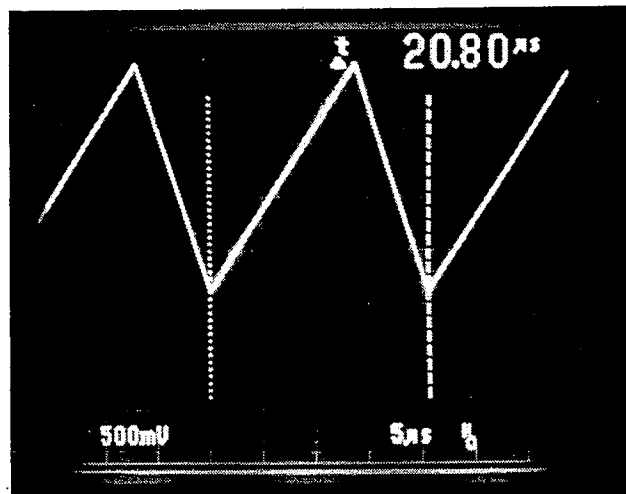

Figure 3.3. 20.8 μ s Sync Signal Free Running Across C9 on Power Supply.
3. Turn R11 CCW and set for approximately 5 μ s fall time on scope. Sawtooth waveform should approach 70% duty cycle. (see Figure 3.3.)